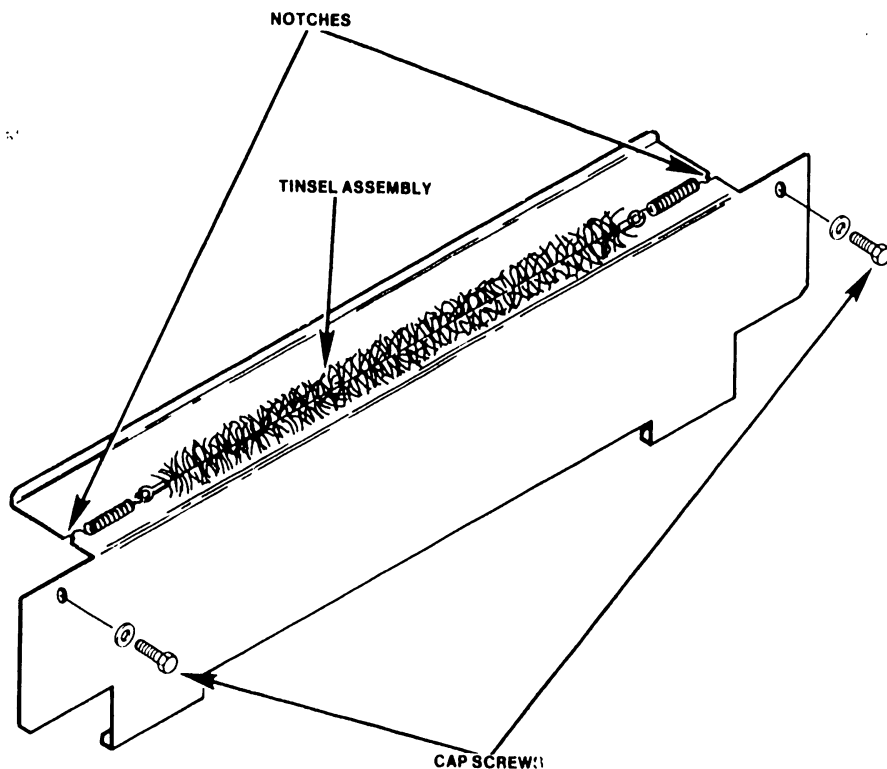

FIGURE 15
- a. Remove the two-5x11mm Metric hex-cap screws from the hammer bank mask. (Figure 15.) Remove the hammer bank mask from the printer. Make two small notches on the top of the hammer bank mask, 3/8" from the front of the mask, with a small pair of wire cutters or a file. Install a tinsel assembly between the two notches. Reinstall the mask on the printer. Make sure that the tinsel barely overhangs the front of the mask. If the tinsel assembly is too far forward, the paper will be pushed out and will cause ribbon smudging.